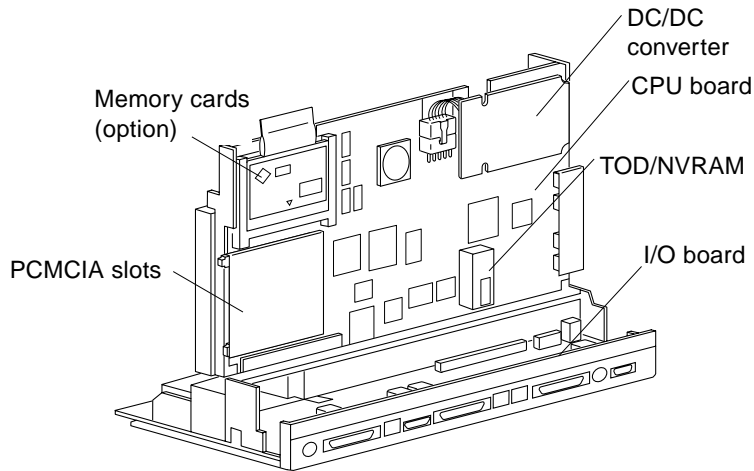

FIGURE 1-4 Rear View—Internal
- FIGURE 1-4 shows the internal rear view